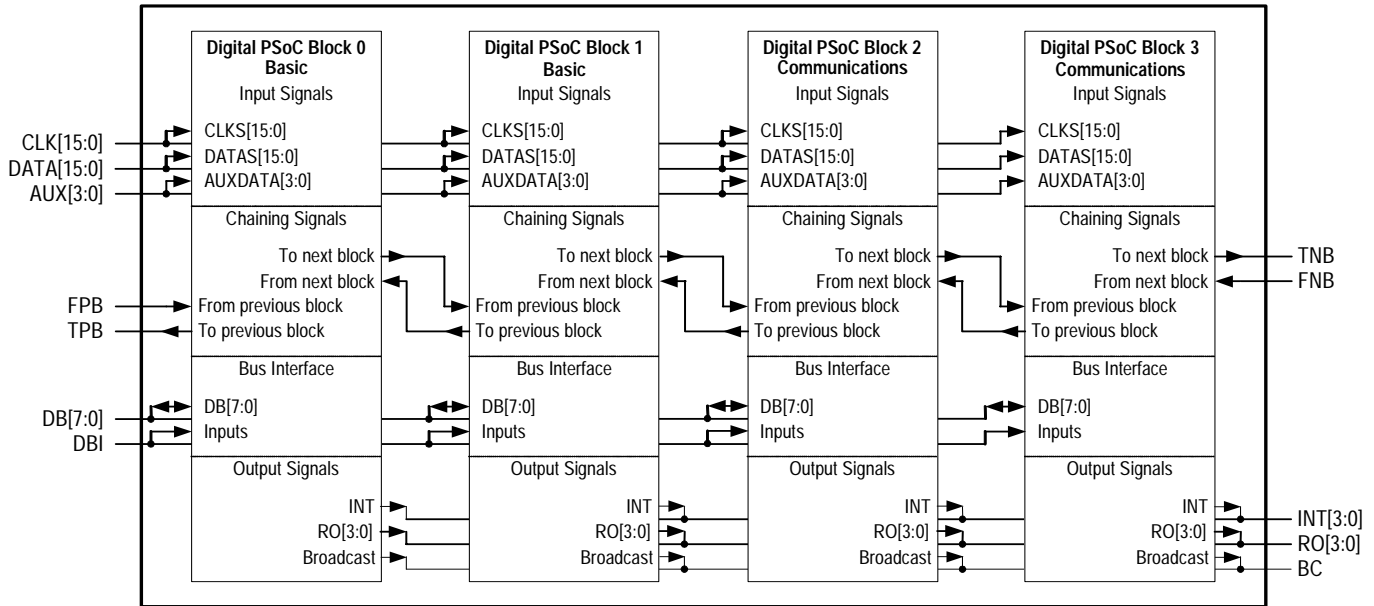
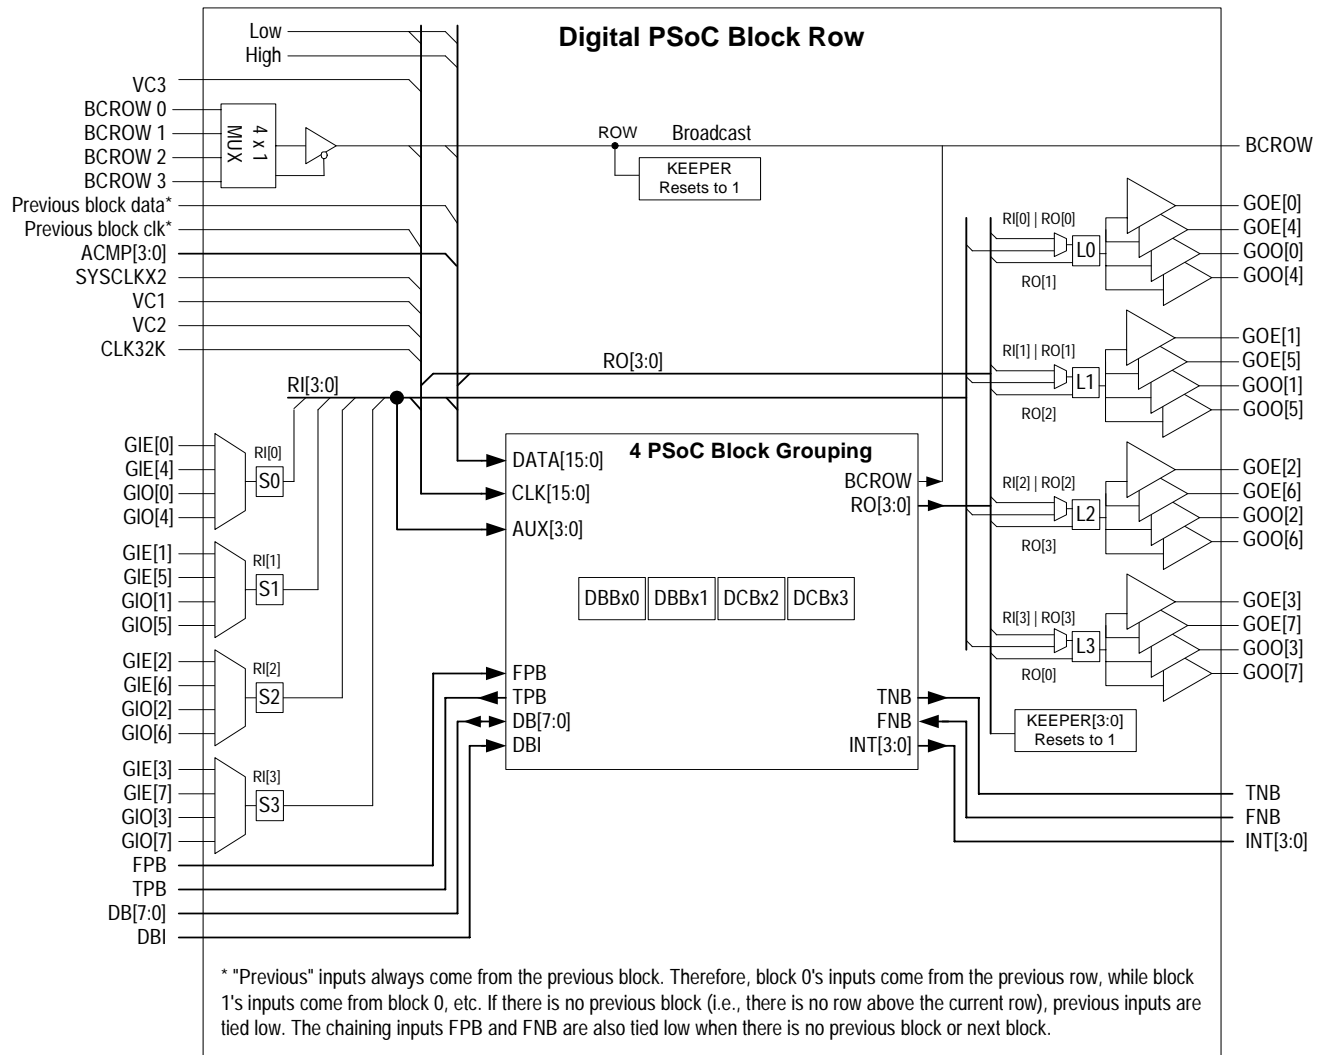

Figure 16-1. Detailed View of Four PSoC Block Groupings
Figure 16-2. Digital PSoC Block Row Structure
In Figure 16-1, within a Digital PSoC Block row, there are four digital PSoC Blocks. The first two blocks are of the type basic (DBB). The second two are of the type communication (DCB). This figure shows the connections between digital blocks within a row. Only the signals that pass through the bold line in Figure 16-1 are shown at the next level of hierarchy (Figure 16-2 on page 185).
In Figure 16-2, the detailed view of the four PSoC block grouping, as seen in Figure 16-1, has been replaced by the box in the center of the figure labeled “4 PSoC Block Group-
ing.” The rest of the configurable nature of the Row Inputs (RI), Row Outputs (RO), and Broadcast clock net (BC) is shown. The next level of hierarchy is shown in Figure 16-1.
The only configurable inputs to a Digital PSoC Block Row are the Global Input Even and Global Input Odd 8-bit buses. The only configurable outputs from the Digital PSoC Block Row are the Global Output Even and Global Output Odd 8-bit buses. Figure 16-2 on page 185 illustrates the relationships between global signals and row signals.
Notice on the left side of Figure 16-2 that global inputs (GIE[n] and GIO[n]) are inputs to 4-to-1 multiplexers. The output of these multiplexers are Row Inputs (RI[x]). Because there are four 4-to-1 multiplexers, each with a unique set of inputs, a row has access to every global input line in a PSoC device.
The outputs from a Digital PSoC Row are a bit more complicated than the inputs. Figure 16-2 on page 185 illustrates the output circuitry in a Digital PSoC Row. Notice in the figure a block labeled “Lx.” This block represents a 2-input lookup table (LUT). The LUT allows the user to specify any one of 16 logic functions that should be applied to the two inputs. The output of the logic function will determine the value that may be driven on to the Global Output Even and Global Output Odd busses. Table 16-5 lists the relationship between a lookup table’s four configuration bits and the resulting logic function. Some users may find it easier to determine the proper configuration bits setting by remembering that the configuration’s bits represent the output column of a two input logic truth table. Table 16-5 lists seven examples of the relationship between the LUT’s output column for a truth table and the LUTx[3:0] configuration bits.